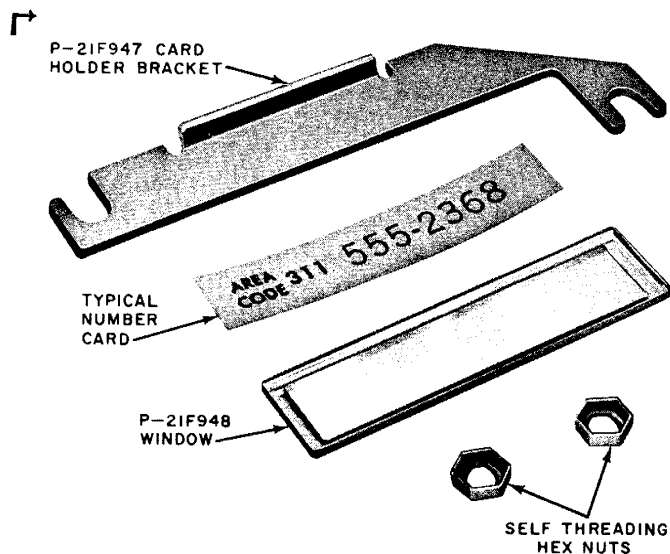

Fig. 13—Number Card and Associated Parts (1A2)
4.26 The P-21F947 card holder bracket, P-21F948 window and two hex nuts (Fig. 13) are packaged separately and shipped in the cash compartment.